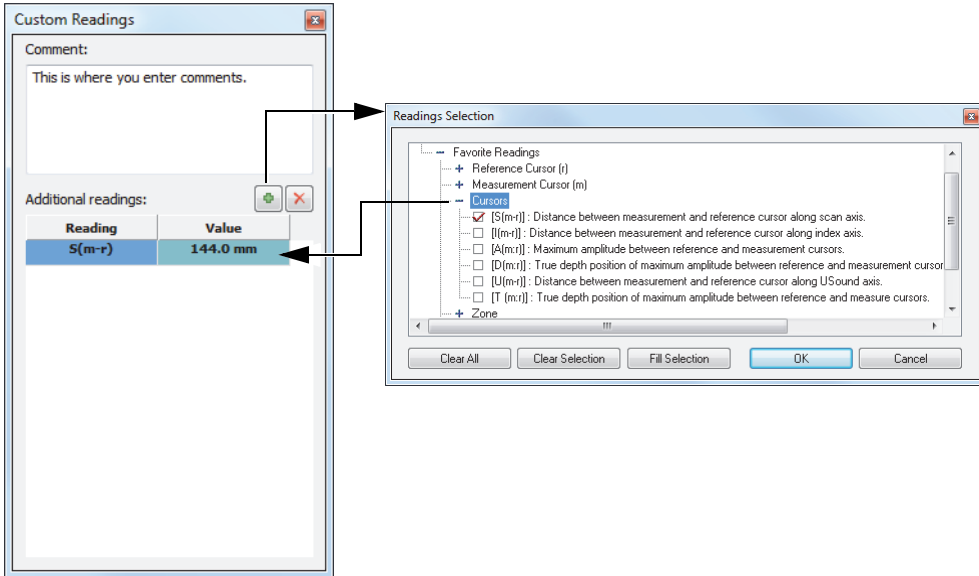

Figure 6-5 Adding a comment and an additional reading to an indication
- c) In the **Custom Readings** dialog box that appears (Figure 6-5 on page 178), type your comment for that indication in the **Comment** box.
9. You can also include additional readings in the indication table (Figure 6-5 on page 178):